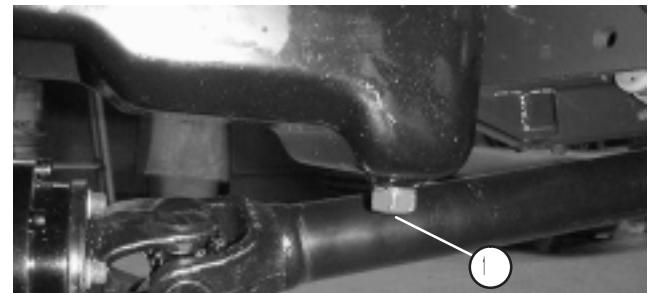

Figure 44
2. Open the hood. Set drain pan under the oil pan and in line with drain plug (Fig. 44).